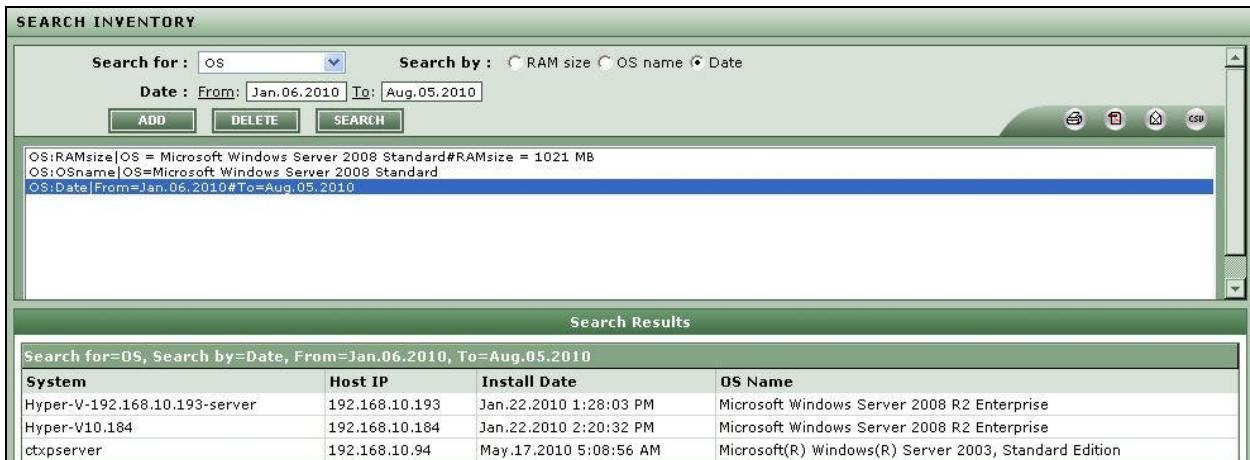

Figure 2.41: Inventory search of a operating system through date wise
6. **Date:** Select this option from **Search by** as depicted in Figure 2.41, if you want to view the details of systems that were installed during a specific time period. Once this option is chosen, specify the start date and end date of this time period using the **From** and **To** calendar controls against **Date**.